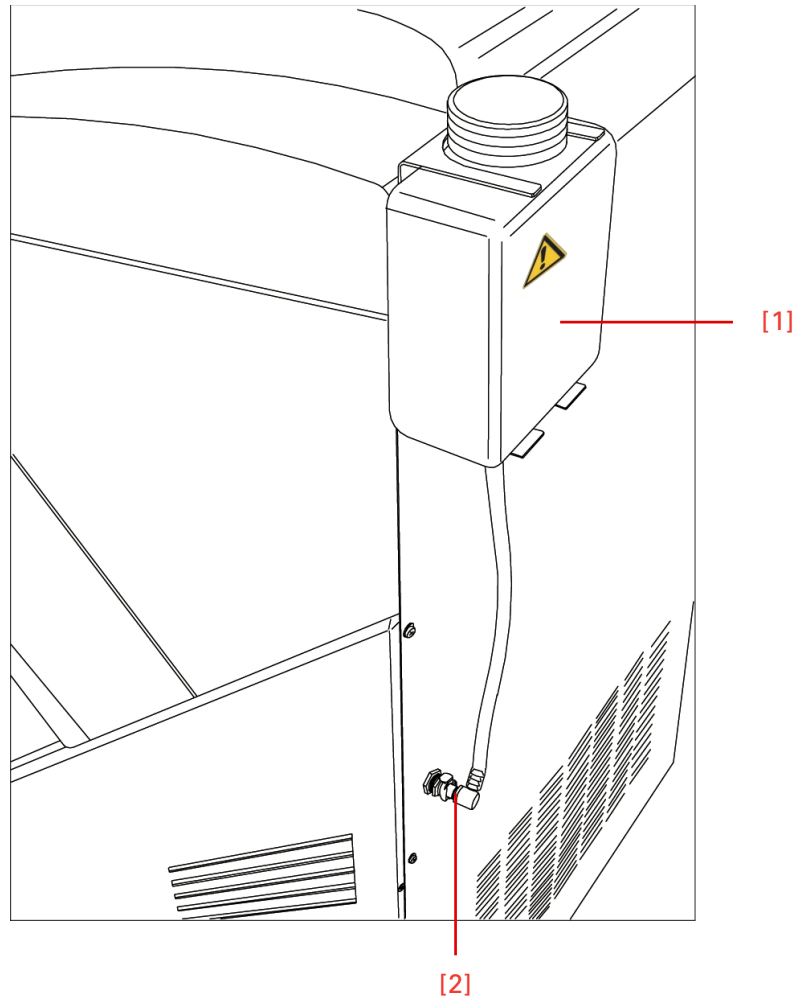

Figure 112a. Fast coupling of the Sanosil® container.
To perform Cold D, the disinfectant tank (Fig. 112a.1) needs to be attached to the back of the unit with two screws (Fig 112a). This only needs to be done once.
- Insert the quick-action coupling onto the back of the unit, as shown in Fig. 112a.2.
- Pour disinfectant solution (Sanosil®) into the disinfectant tank on the back of the unit (Fig. 112a). Before filling the tank, check the shelf life and the hazardous substance warnings on the disinfectant (Sanosil®). Also, always follow the manufacturer's instructions for handling, storage and disposal of the disinfectant used (Sanosil®) as well as the information provided by the manufacturer concerning any precautionary measures to be taken in the event of an accidental release or spillage of the disinfectant.